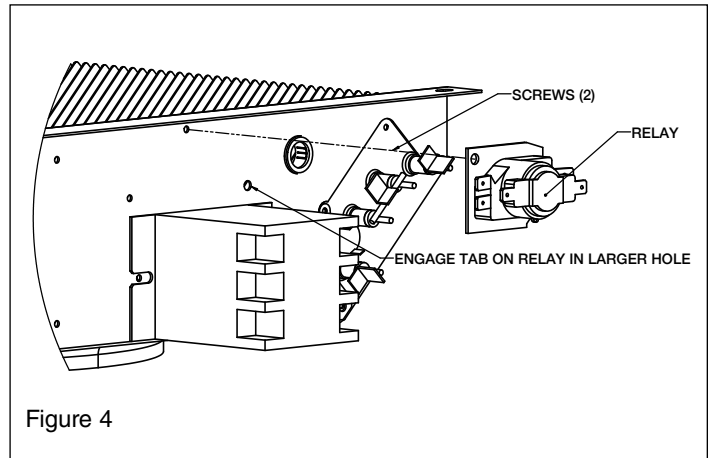

Figure 4
1. Install the Control Relay as shown in Figure 4.